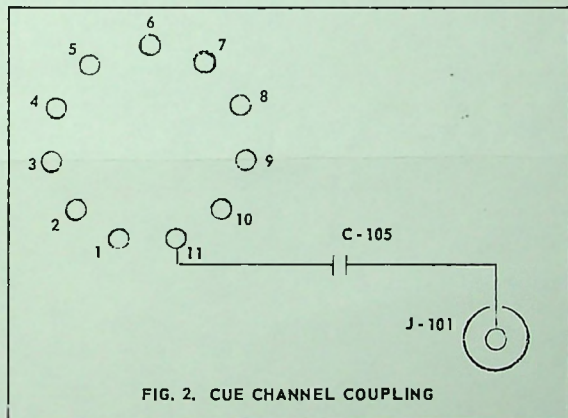

FIG. 2. CUE CHANNEL COUPLING
2. **A-150, A-190, P-190 cue channel triggering.** (See Fig. 2) Additional circuit modification is necessary with these amplifiers, if the cue channel does not trigger with the NORTRONICS #3000, 3001, 3200, or 3201 head.